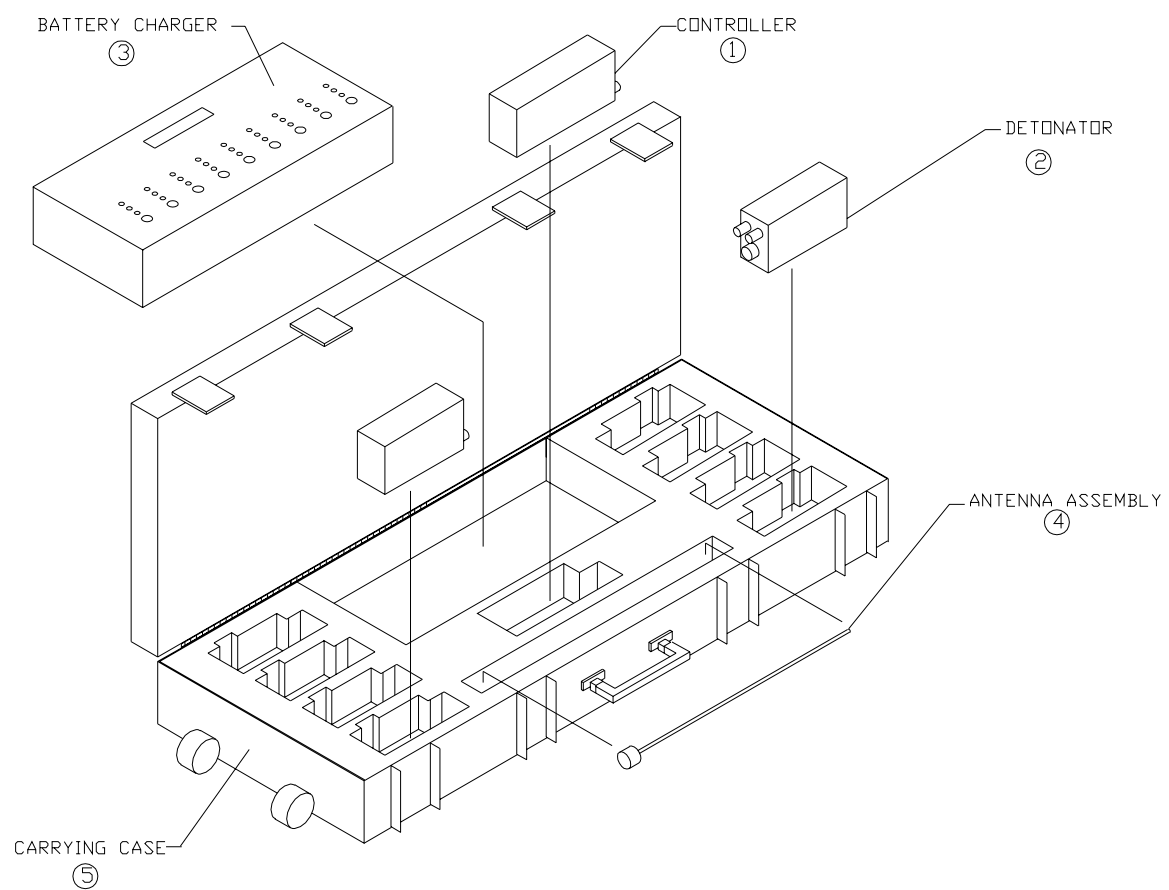

Figure 2-1 RFD System.
| Figure 2-1 RFD System.....                                       | 2-6  |
2.1.6. The RFD System consists of the component parts in Table 2-1. The total system is shown and identified in Figure 2-1.
| Figure 2-1 | 1         | Controller Unit          | 1                |
| Figure 2-1 | 2         | Detonator Unit           | 8                |
| Figure 2-1 | 3         | Battery Charger Assembly | 1                |
| Figure 2-1 | 4         | Antenna Assembly         | 9                |
| Figure 2-1 | 5         | Carrying Case Assembly   | 1                |